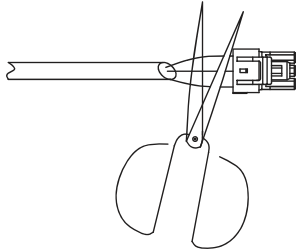

Fig. 16 — Shearing Outdoor Connector
1. Cut the connector on the outdoor unit side as shown in Fig. 16.